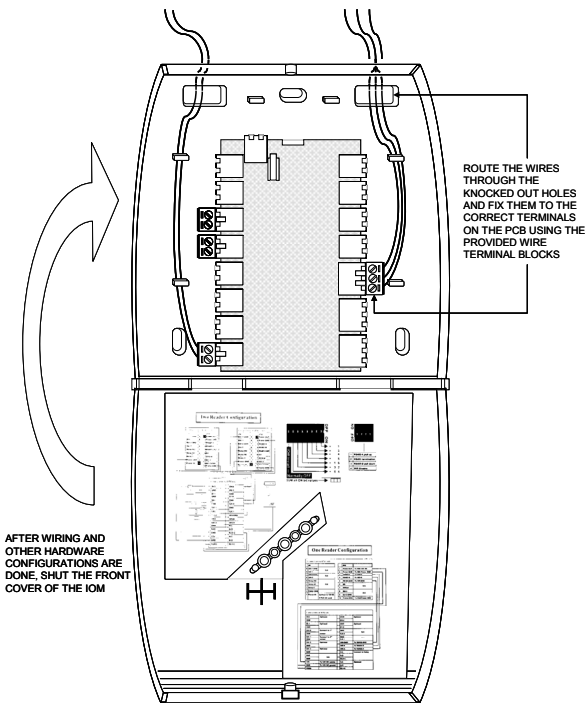
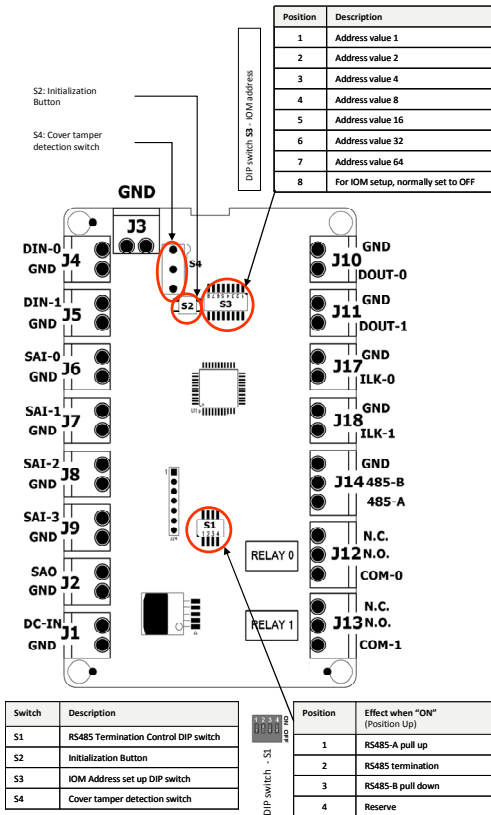

Fig.15. Routing the wires and connecting them to the IOM PCB
Fig.17. IOM connections
terminal(s) in their correct slots on the PCB. See **Fig.15**. For IOM connection details see **Fig.17**. Drop the excess wire lengths behind the drywall. Set the S1 DIP switch if the IOM is to be connected to a reader via RS485. See **Fig.17** and appendix for more details.
6. Set the IOM address as per **Fig.17** and appendix. Once all connections and settings are done, close the IOM enclosure by pressing the front case cover over the back half. See **Fig.15**.
5. Connect the wire terminals to the ends of the wires and plug the wire terminal(s) in their correct slots on the PCB. See **Fig.15**. For IOM connection details see **Fig.17**. Accommodate any excess wire lengths inside the gang-box. Set the S1 DIP switch if the IOM is to be connected to a reader via RS485. See **Fig.17** and appendix for more details.